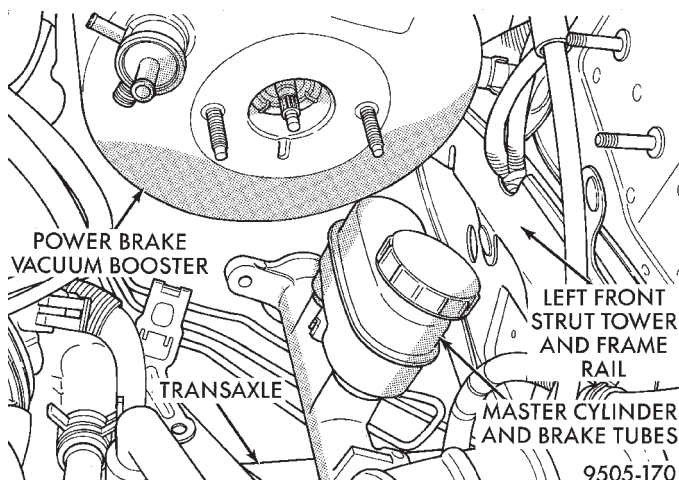

Fig. 99 Master Cylinder Assembly Positioned For Booster Removal
(9) Without removing the brake tubes from master cylinder, remove it from the power brake vacuum booster. Then carefully lower master cylinder and brake tubes as an assembly until it is positioned on top of the transaxle (Fig. 99).